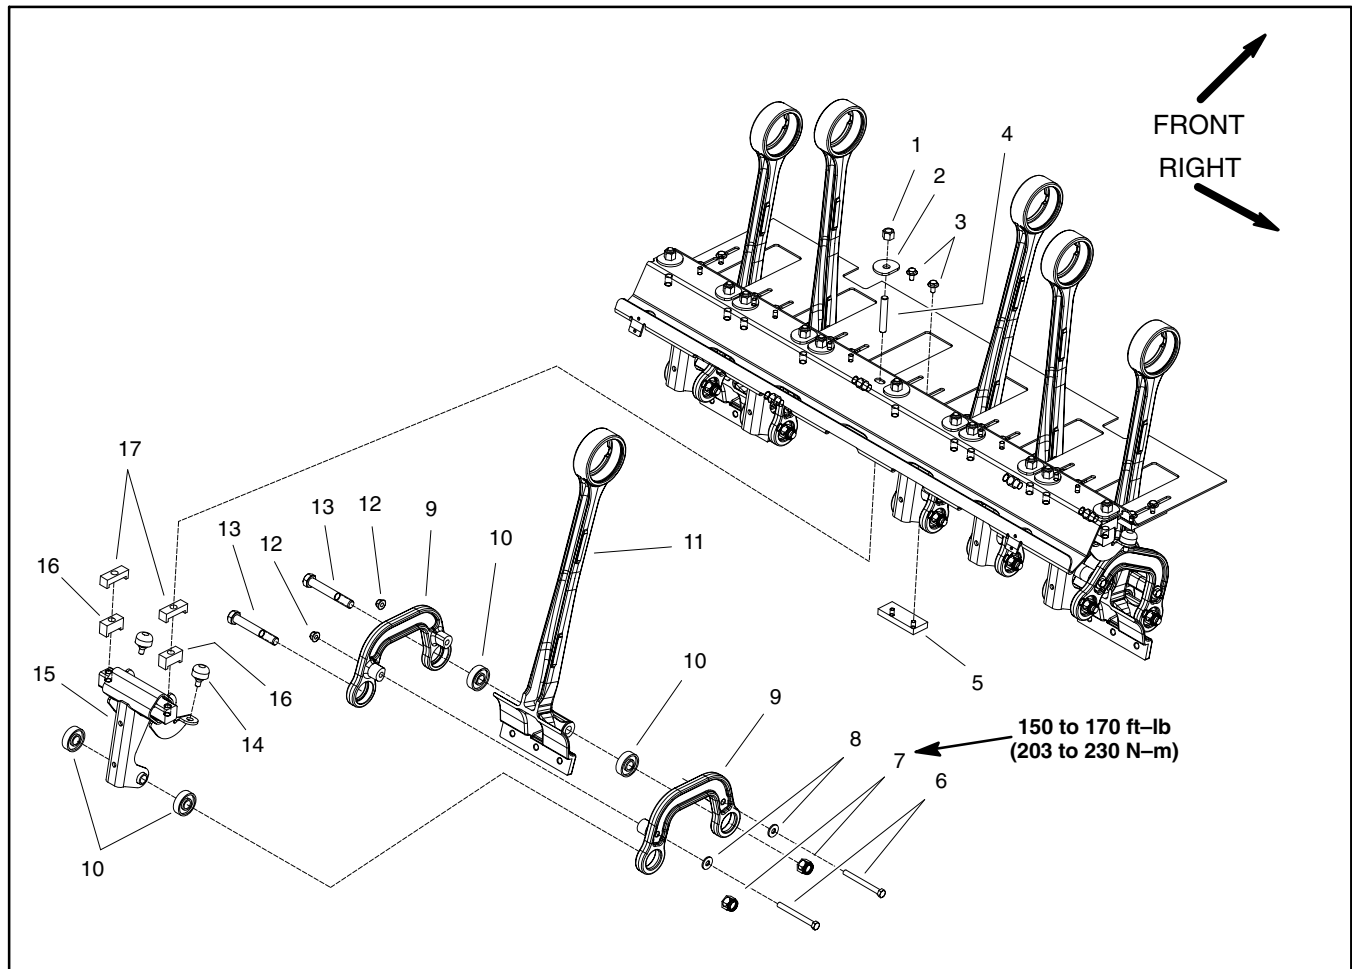

Figure 4
### Disassembly (Fig. 4)
2. Remove rotolink components as needed using Figure 4 as a guide.
### Assembly (Fig. 4)